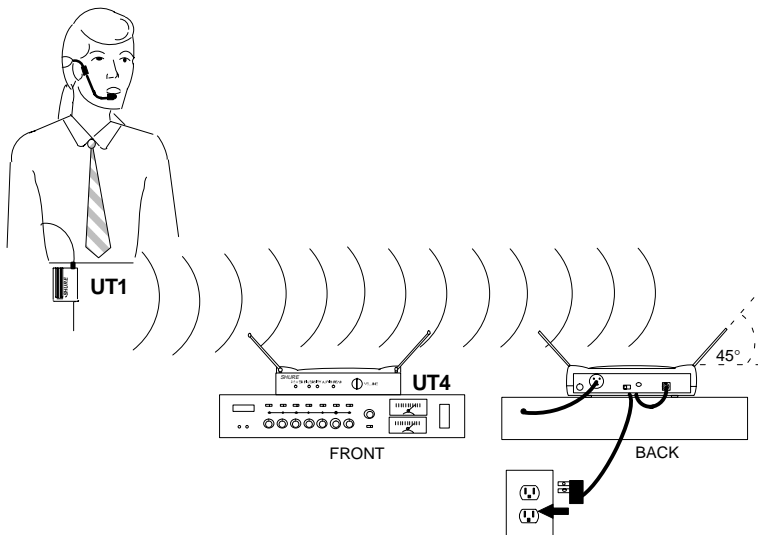

FIGURE 10
1. Refer to Figure 10. Connect the supplied ac power adapter to the DC INPUT connector on the back of the receiver. Insert the adapter's cable into the power cable retainer. Plug the adapter into a wall socket or other ac power source (use PS20 for 120 Vac, 60 Hz power; use PS20E for 230 Vac, 50 Hz power). The green POWER light on the receiver will glow.